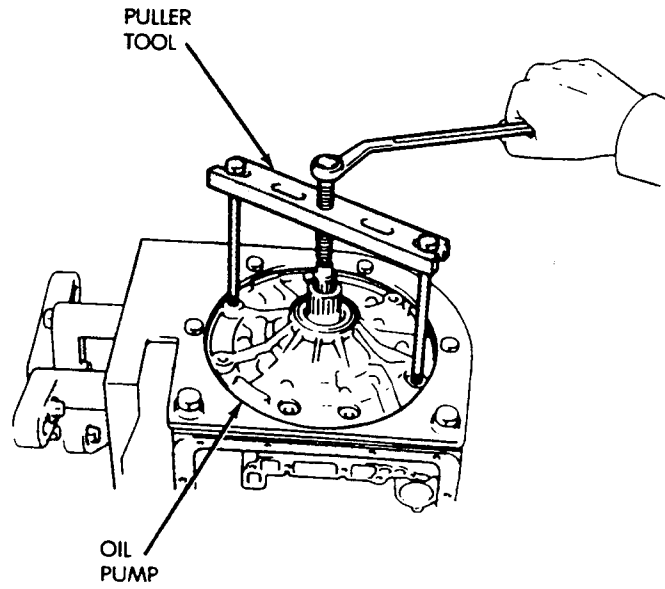
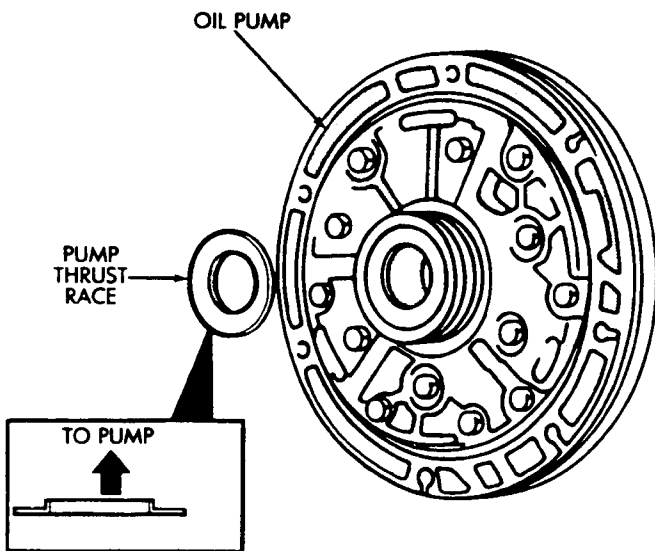

Fig. 54 Installing Oil Pump
Fig. 53 Installing Oil Pump Thrust Race
(65) Coat thrust bearing race with petroleum jelly and install it in oil pump (Fig. 53). Bearing race outer diameter is 47.2 mm (1.858 in); inside diameter is 28.1 mm (1.106 in).
(66) Lubricate and install replacement O-ring on oil pump body.
(67) Install oil pump in case. Align pump and case bolt holes and carefully ease pump into place (Fig. 54).